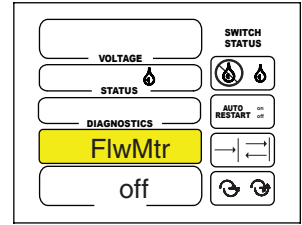

Figure 35-1
1. FlwMtr should be flashing. See figures 35-1.